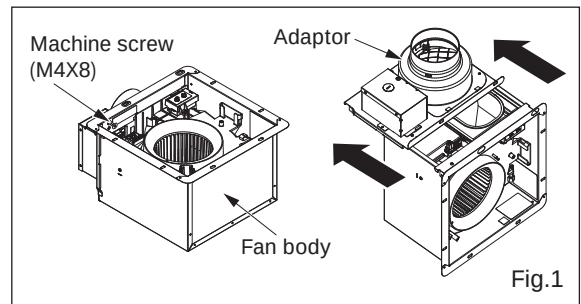
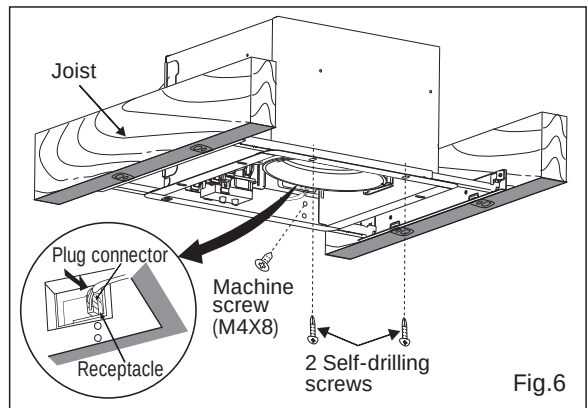

Fig.1
Fig.6
1. Disconnect plug connector from receptacle (Fig.6) and remove adaptor from fan body by removing the machine screw (M4X8) before installation. (Fig.1)
8. Insert fan body and slide into adapter assy with some strength, until the flange overlaps the Flex-Z Fast™ bracket. Secure the fan body to Flex-Z Fast™ bracket by using 2 self-drilling screws, plug connector to receptacle and secure the fan body to adaptor by using machine screw (M4X8). (Fig.6)